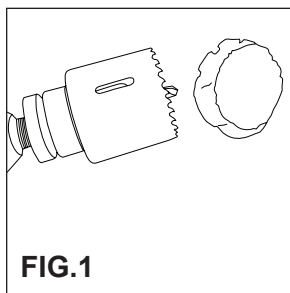

FIG.1
- i.) Using a 2" (51 mm) hole saw, make an opening on each side of the wall ensuring that the holes are aligned (See Fig. 1).